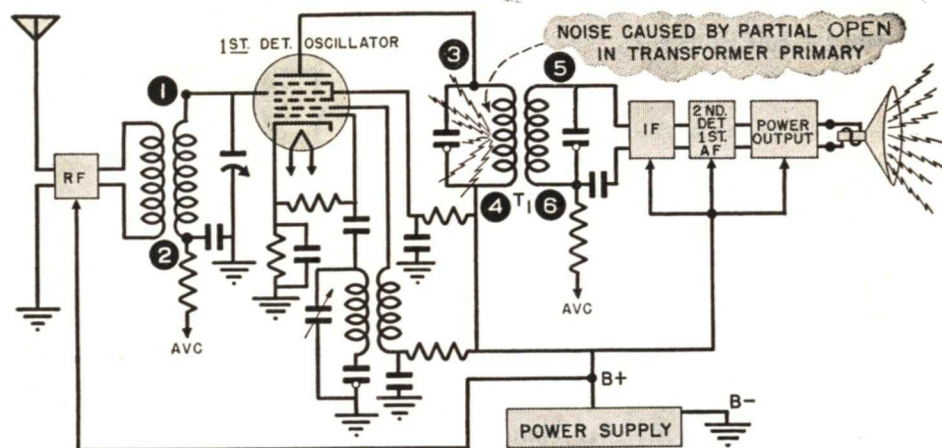

FIG. 5. A typical converter stage, with noise produced by a partial open in the i.f. transformer primary.
**Examples of Blocking.** Suppose you have the receiver shown in Fig. 5, in which a partial open in the primary of the first i.f. transformer  $T_1$  causes a noise-producing variation of the mixer plate current, and produces a rapid machine-gun-like crackling in the speaker. Here's how you could localize the trouble:
► This shorting procedure can be applied to the r.f. circuits shown in Fig. 5. Here, if the i.f. transformer were faulty, shorting between terminals 5 and 6 would eliminate the noise, but shorting between terminals 1 and 2